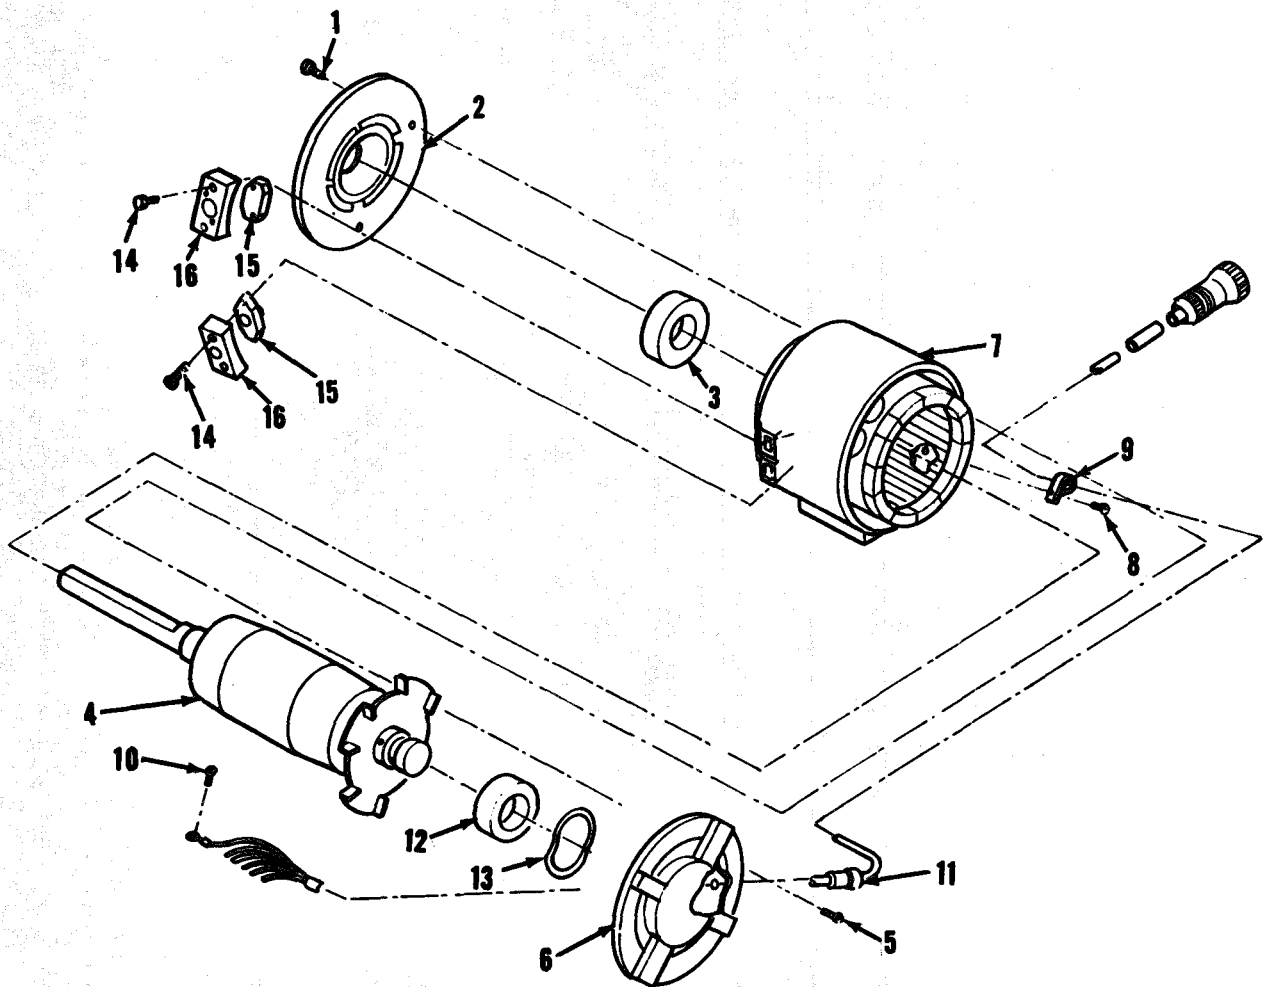

Figure 6-4. Fan motor exploded view
b. Disassembly. Refer to figure 6-4 and disassemble motor as follows:
(1) Remove four screws (1). Remove end bell (2).
(2) Remove end bell bearing (3).
(3) Remove rotor (4).
(4) Remove four screws (5). Remove end bell (6) from stator (7).
(5) Remove screw (8) and loop clamp (9). Remove screws (10) and remove cable (11) from motor.
(6) Remove bearing (12) and spacer (13) from end bell (6).
(1) Clean metal parts with cleaning solvent (Fed. Spec. P-D-680). Wipe off electrical parts with a clean cloth.
(2) Inspect wiring for damaged insulation and broken wiring. Repair damaged insulation.
(3) Inspect connector for damage.
(4) Inspect bearing for wear, galling or flat spots. Replace defective bearings.
(5) Inspect shaft for gouges or worn bearing surface. Repair minor defects.
(6) Inspect stator for damaged, broken or shorted wiring.
d. Assembly. Refer to figure 6-4 and assemble motor as follows:
(1) Install thermal protectors (15), housing (16), and screws (14), as described in paragraph 4-20 and 4-22.
(2) Install spacer (13) and bearing (12) in end bell (6).
(3) Install cable ends using screws (10).
(4) Attach end bell (6) to stator (7) with screws (5).
(5) Attach cable (11) to stator (7) with clamp (9) and screws" (8).
(6) Install rotor (4) in motor.
(7) Install bearing (3) in end bell (2).
(8) Attach end bell (2) with screws (1).